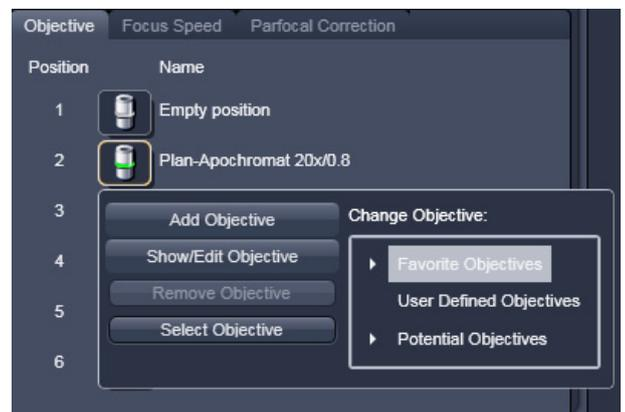

Fig. 5-122 Change objective window
- An expansion (**Change Objective**) window appears. All available objectives are listed in the **Potential Objectives**, **User defined Objectives** or **Favorite Objectives** directories of the expanded window (see Fig. 5-122).